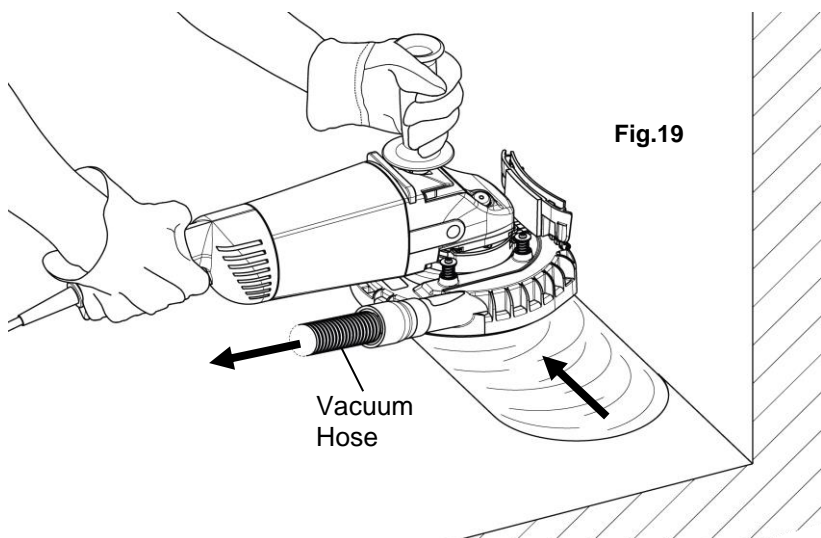

Fig.19
6. Place [a] Main Unit on the material and slowly move toward the grinding direction along the wall. (Fig.19)